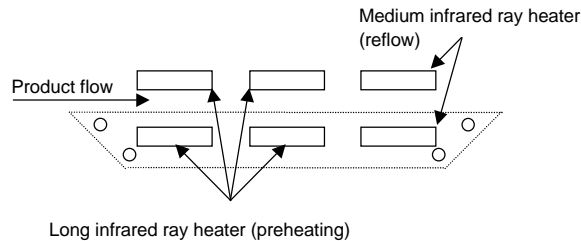

Figure 3 Heating top and bottom with long or medium infrared rays
(2) Using medium infrared ray reflow
- Heating top and bottom with long or medium infrared rays is recommended (see Figure 3).